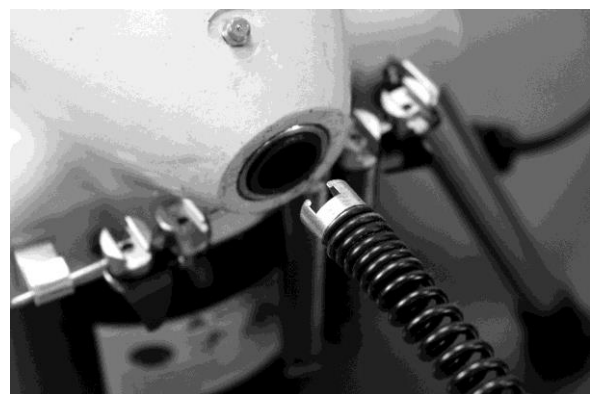

Figure 2 – Inserting Cable Into Front Of Machine
4. Insert first cable into front of machine (female end first) and push through guide hose until approximately one foot remains out the front of the machine (Figure 2).